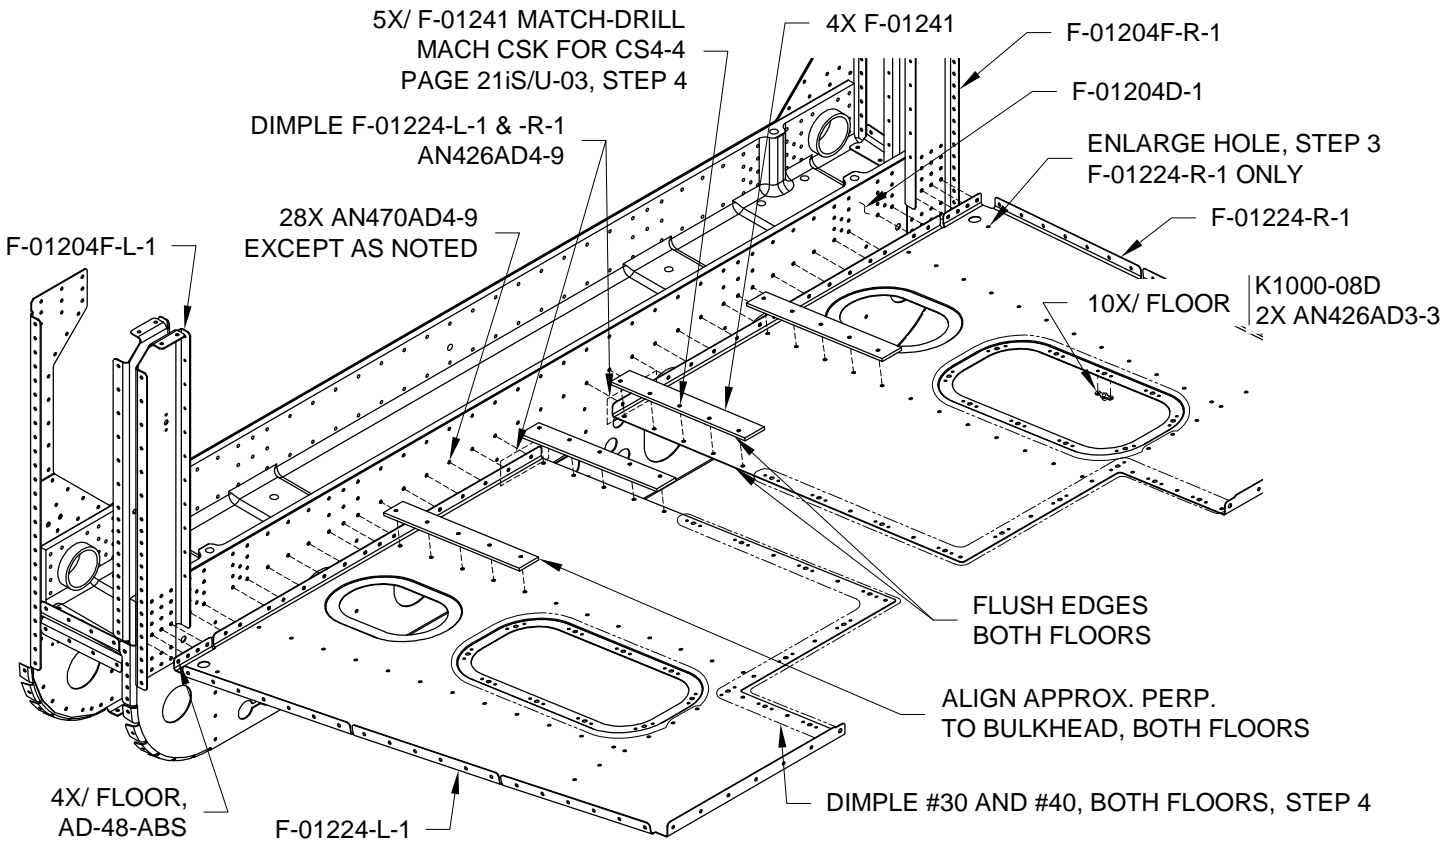

FIGURE 2:
Step 2: Align two each F-01241 to F-01224-L-1 and F-01224-R-1 as shown in Figure 2.
Step 4: Dimple the #30 and #40 holes in F-01224-L-1 & -R-1 along the edges bordered by the dashed lines and around the access holes. See Figure 2.
Step 6: Rivet F-01224-L-1 & -R-1 to F-01204D-1 and F-01204F-L-1 & -R-1 using the rivets called out in Figure 2. Use two thin flush sets in a hand squeezer and apply tape to the squeezer to prevent scratching the baggage floors.